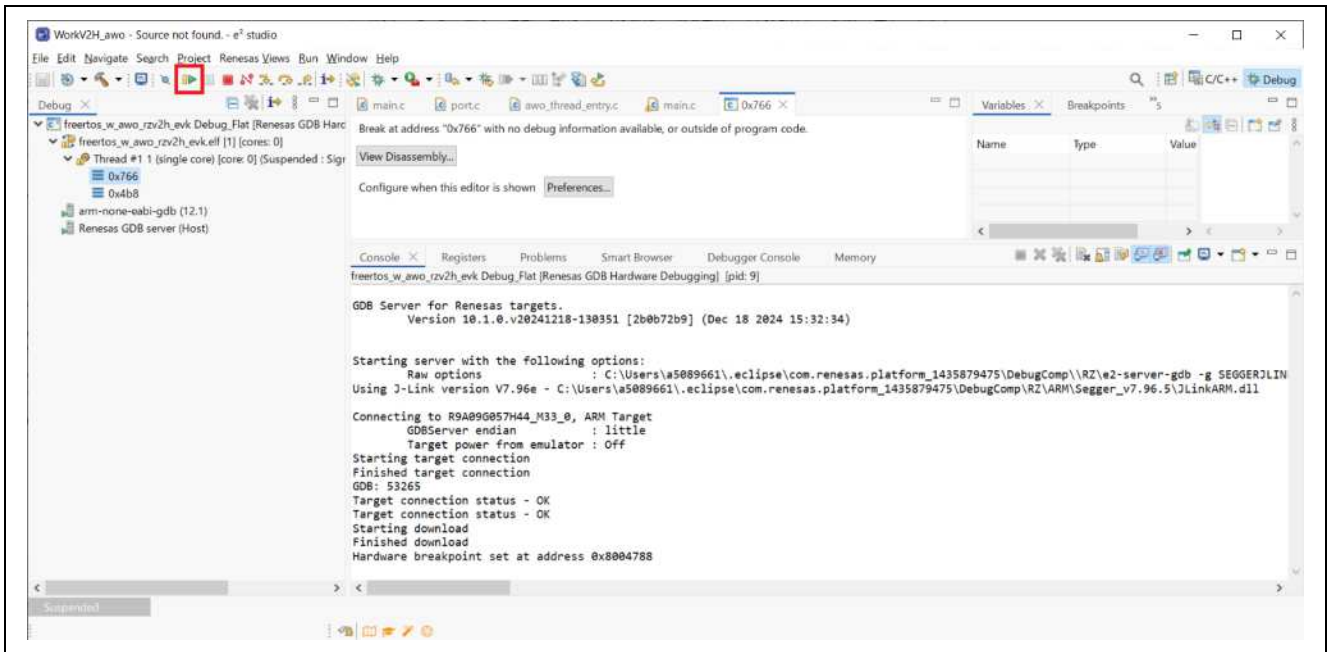

Figure 4-9. How to start to AWO Example Program (1)
4. When **Debug Perspective** is opened, Program Counter (PC) should be located as shown in Figure 4-9. Then, continue the program to push the button shown in Figure 4-9.